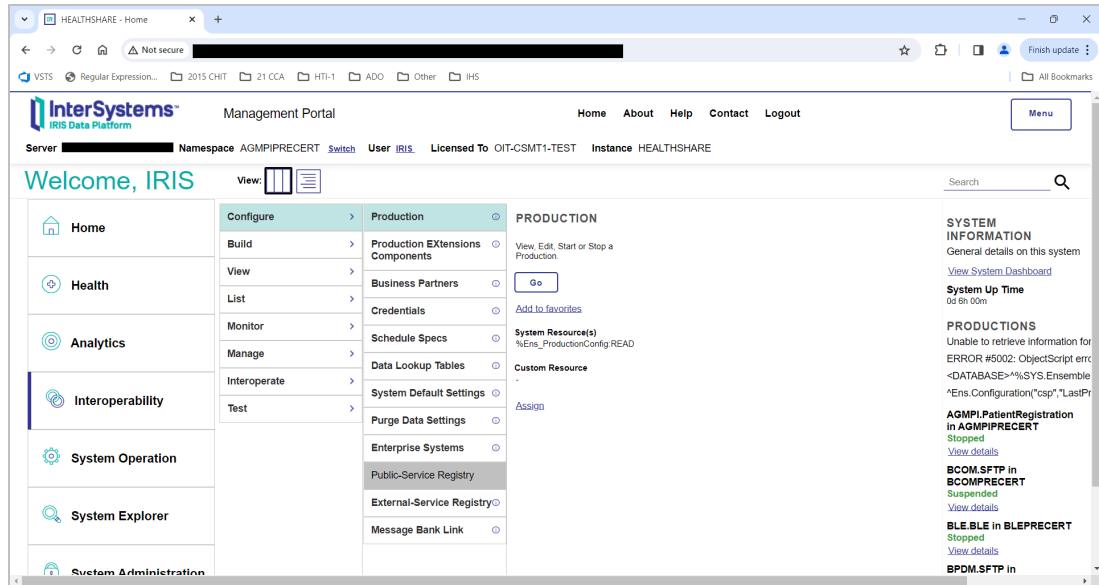

Figure 5-5: Management Portal page, Production option
- On the main **Management Portal** page, select **Interoperability** in the left column, then **Configure > | Production**, as shown in Figure 5-5.